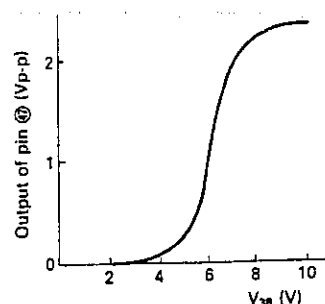

Figure 44-3.
The gain of the amplifier (C) is variable with change of DC voltage at the colour saturation control terminal (pin 38). With regard to the colour saturation for which the final colour tracking is done by the SECAM chroma IC, it is arranged that DC voltage of pin 38 is directly applied to the buffer and goes out of pin 3 entering the SECAM chroma IC. Therefore, the gain of the amplifier (C) is fixed with the maximum contrast and is variable with change of DC voltage of pin 38. Fig. 44-3 shows the colour saturation characteristic.